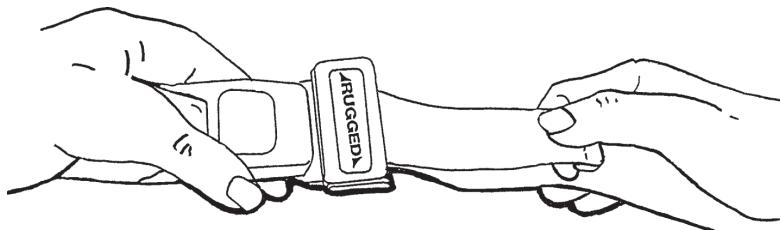

Figure 19 - Shortening the Safety Restraint
- To shorten the restraint, grasp the hemmed tab and pull the webbing back through the tang until the required tightness is achieved (Figure 19).